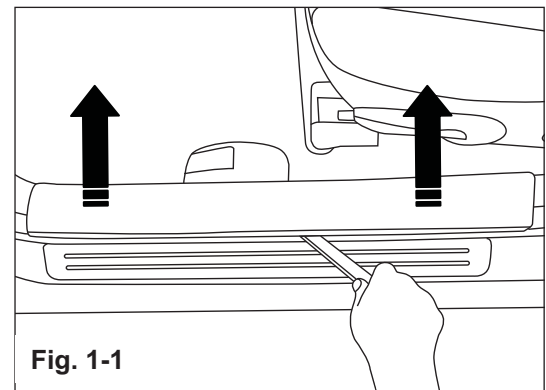

Fig. 1-1
- a) Use fiberstick to disengage clips. (Fig. 1-1)